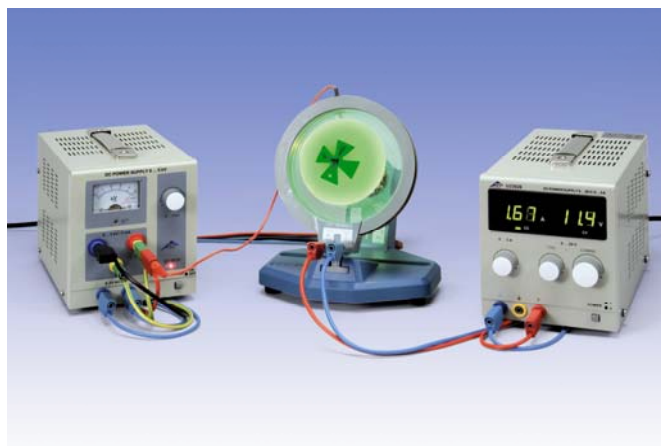

Fig. 3: Modified experiment set-up with an additional axial magnetic field
- Insert one coil from the front into the tube holder and connect it to the DC power supply unit (see Fig. 3).